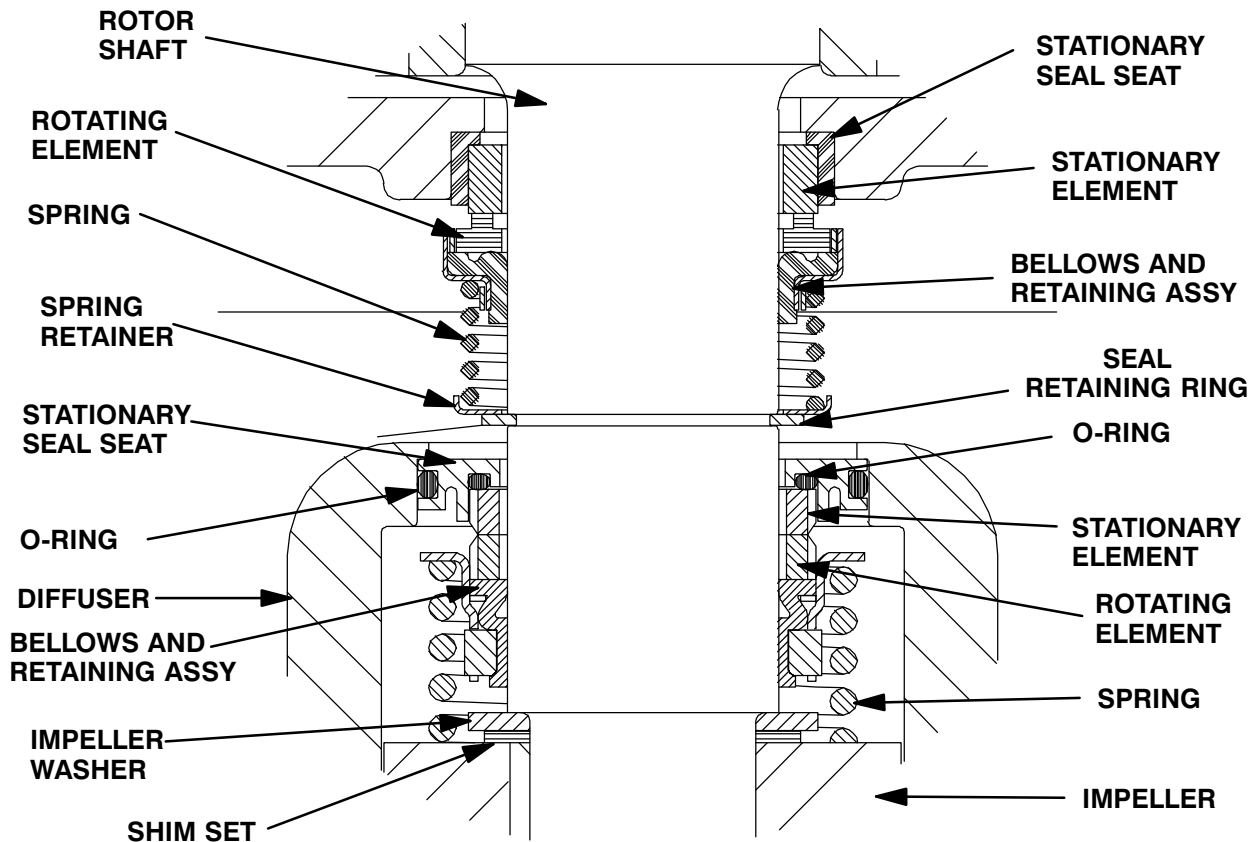

Figure E-3. Upper And Lower Seal Assemblies
Install the shaft seals as illustrated in Figure E-3.
Slide the seal spring over the shaft and bellows retainer, and install the spring retainer. Install the seal retaining ring (34). See Figure E-3 for the proper order of seal assembly.